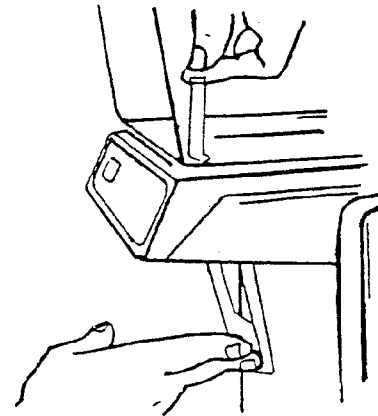

Fig. 7
- d. Carefully insert pinch tube into bowl spout opening and on into lower opening of handle support spout. Make sure end of tube does not get caught on edge above handle support spout opening, pull end of tube for final seating into bowl spout seat. Make sure tube is free of wrinkles and extends below support spout above $\frac{1}{4}$ inch (see Fig. 7).